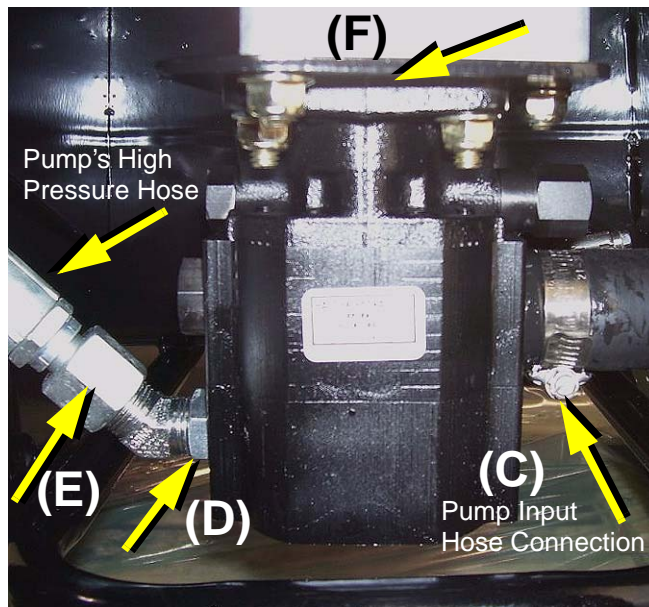

FIGURE 3
9. Refer to Figure 3. Inspect location of leak(s). Ensure that the oil is coming from the pump and not from spilled engine oil or a leaking engine crankshaft seal.
10. If leaking is from the pump's 1" diameter input hose connection (C) or high pressure output hose fittings (D & E), tighten hose clamp and/or output hose fittings.